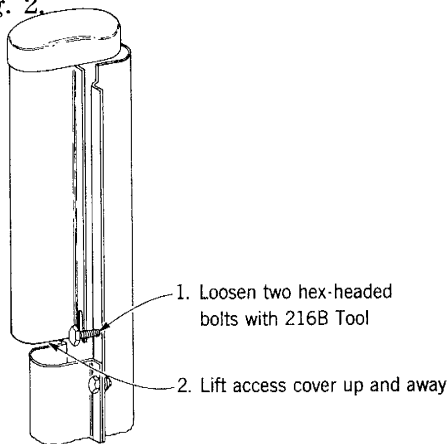

Fig. 2 — Remove Access Cover
- 2.02 The access cover is removed as shown in Fig. 2.
**3.02** The access cover is removed in the same way as shown for the D Buried Wire Terminal in Paragraph 2.02 and Fig. 2.